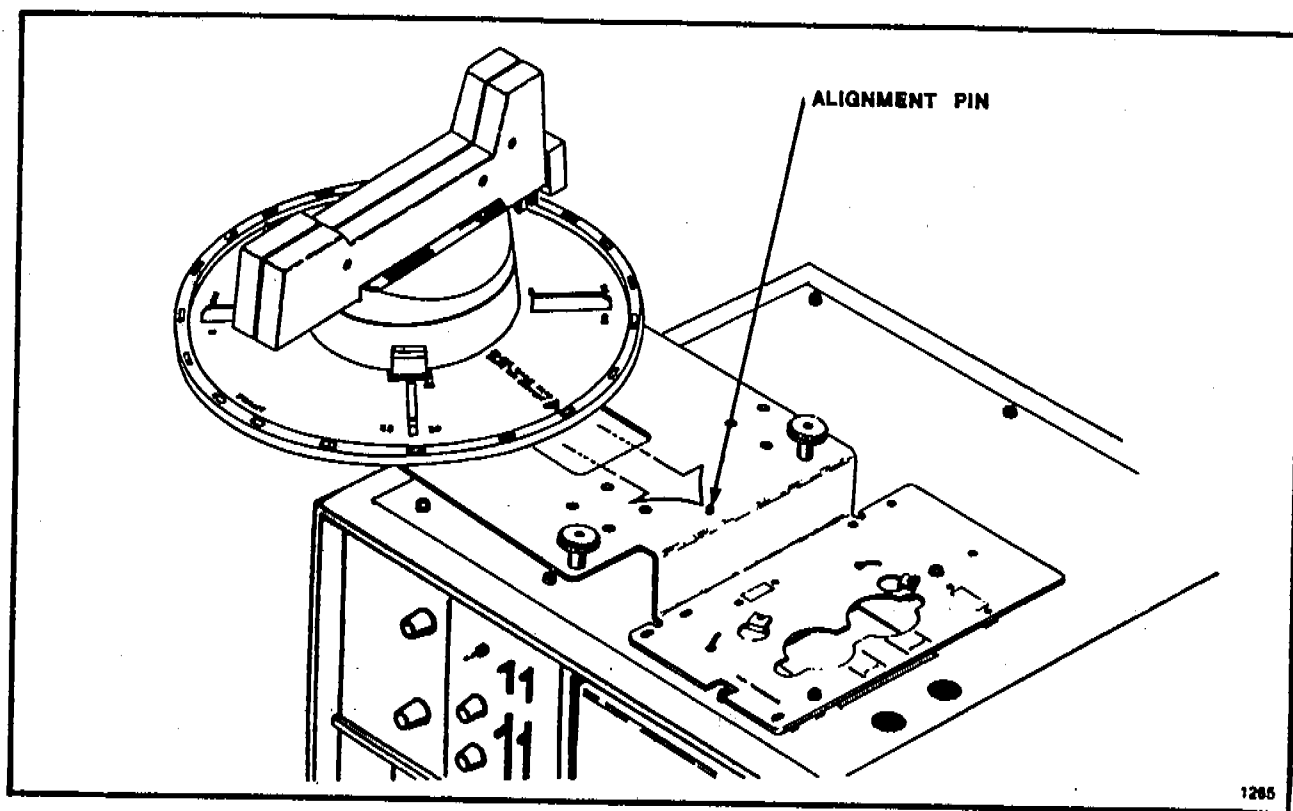

Figure 2-32. Tray Installation
1. Using Figure 2-32 as a guide, position the tray to the left of the mounting bracket. Align the base of the tray with the opening in the mounting plate. An arrow on the tray is provided to show the direction the tray is installed.